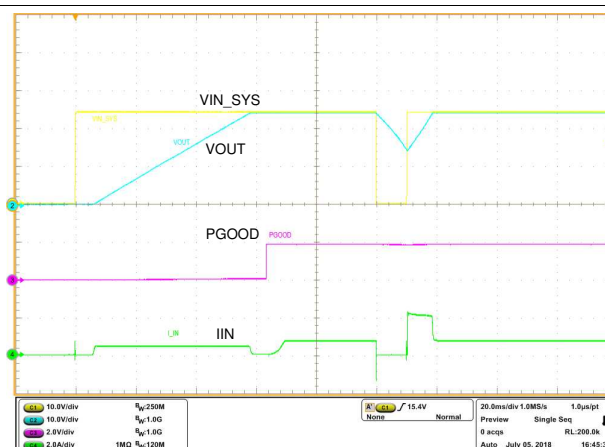
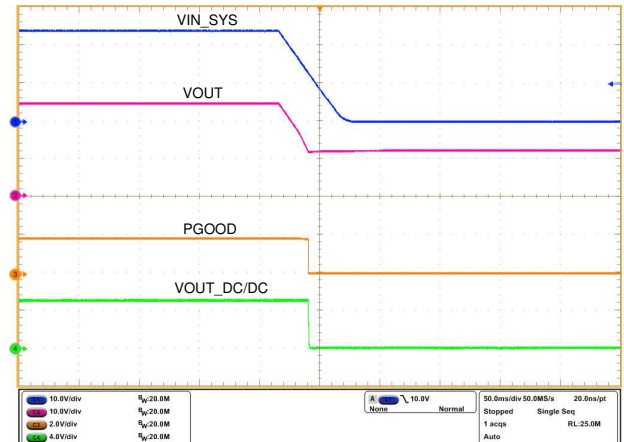

图 47. Power Up Followed With Voltage Interruption With TPS26630
图 49. Power Down Response
The R_{PGOOD} serves as pull-up for the open-drain output. The current sink by this pin must not exceed 10 mA (see the Absolute Maximum Ratings table). Typical resistance value in the range of 10 kΩ to 100 kΩ is recommended for R_{PGOOD}. Connect PGOOD directly to the EN pin of the DC-DC converter. Figure 47 and Figure 49 illustrate the power up and power down performance of the system respectively. The C_{IN} is a local bypass capacitor to suppress noise at the input. A minimum of 1 μF is recommended for C_(IN) for limit the slew rates during the surge test.